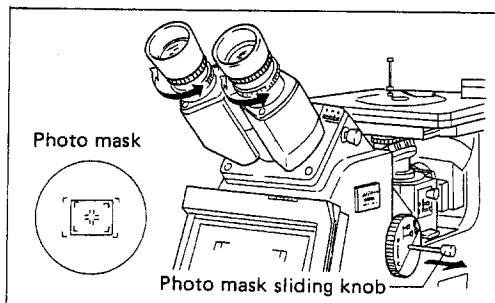

Fig. 34
- To put the photo mask into the optical path pull the photo mask sliding knob up to the limit. (Fig. 34)